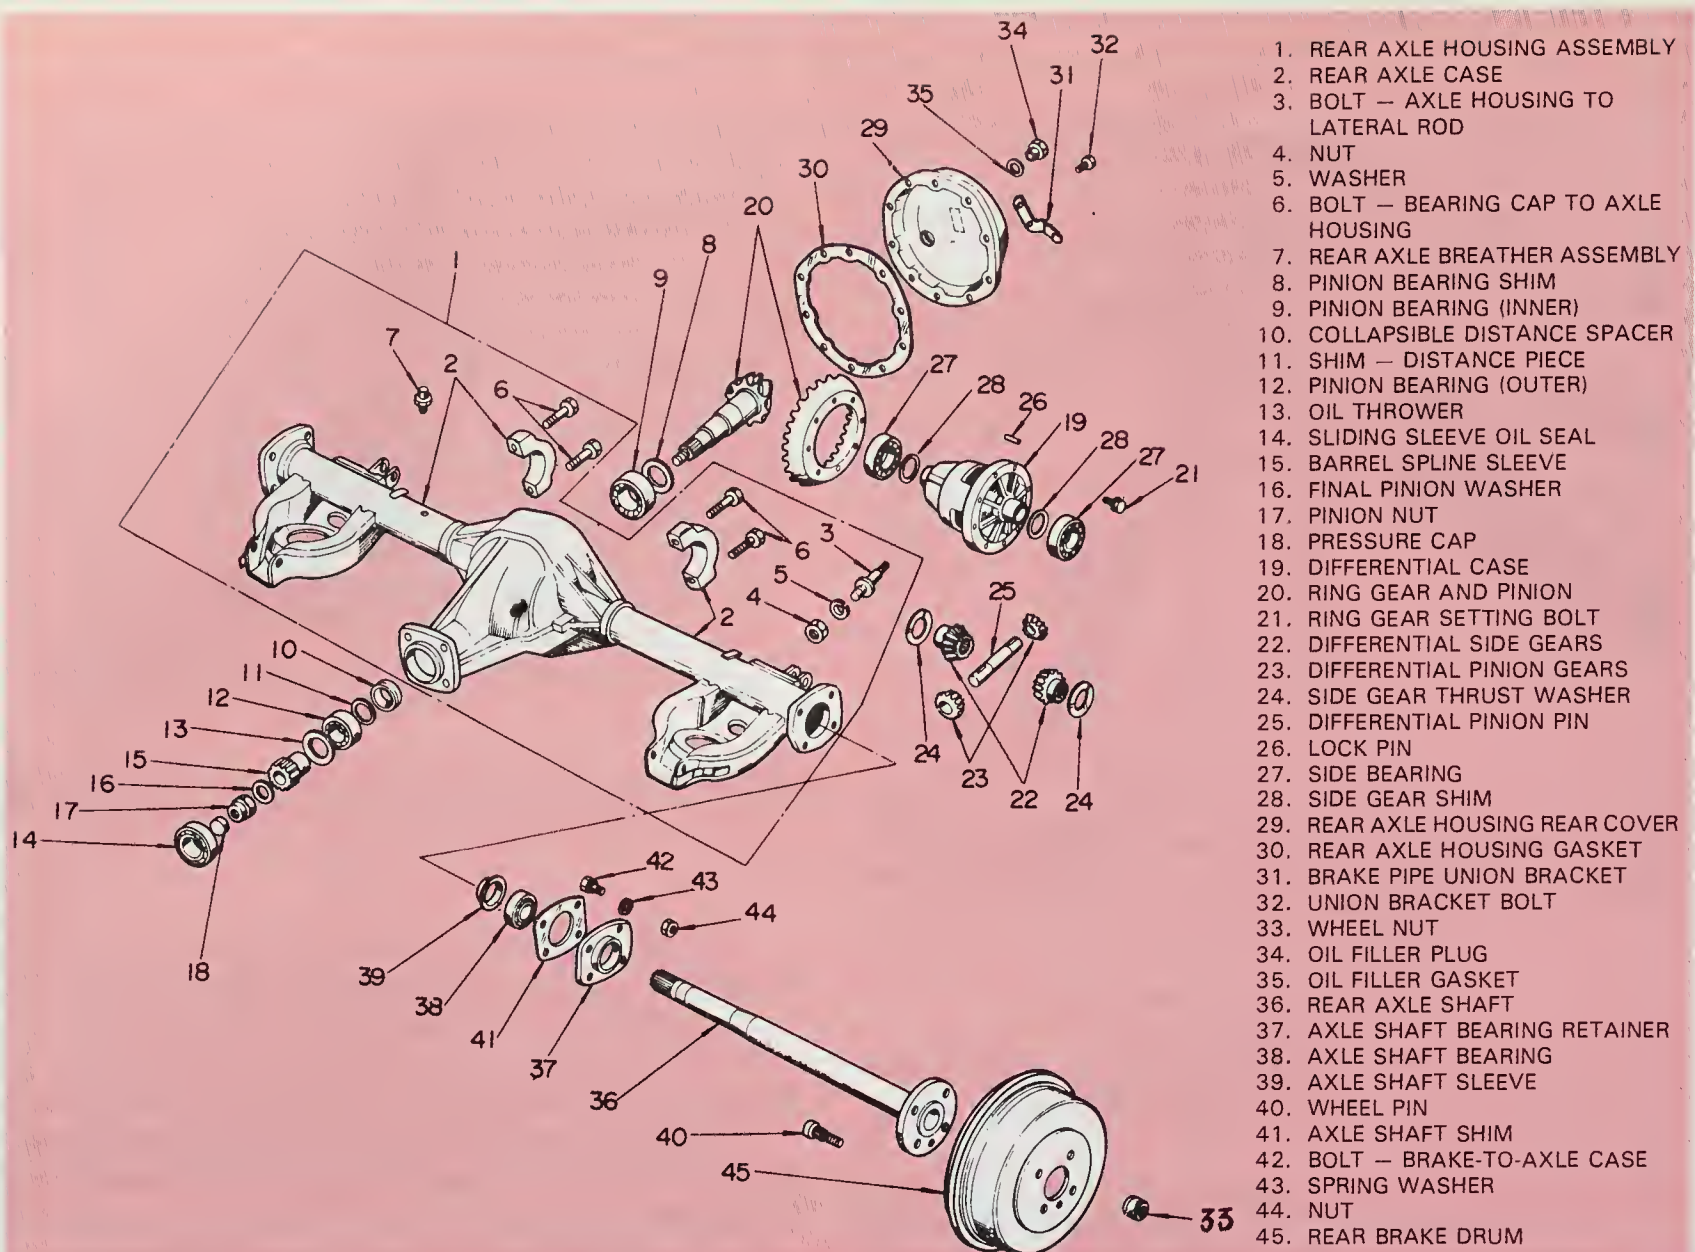

Fig. 59-21. Use service manual illustration like this one to help you with reassembly. (GMC).
12. Use a shop manual for detailed directions, Figs. 59-21 and 59-22. Differential designs and repair procedures vary. Special tools and methods are frequently needed.